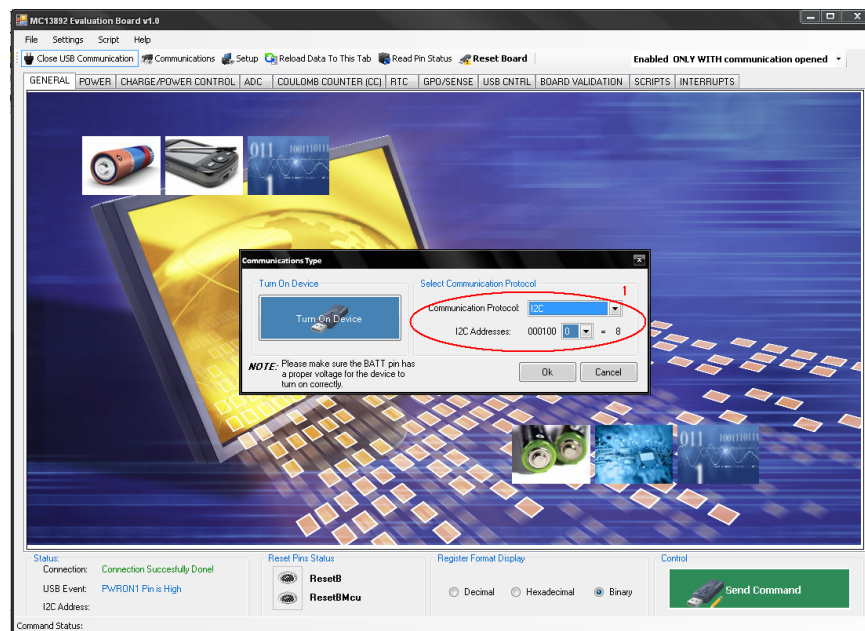
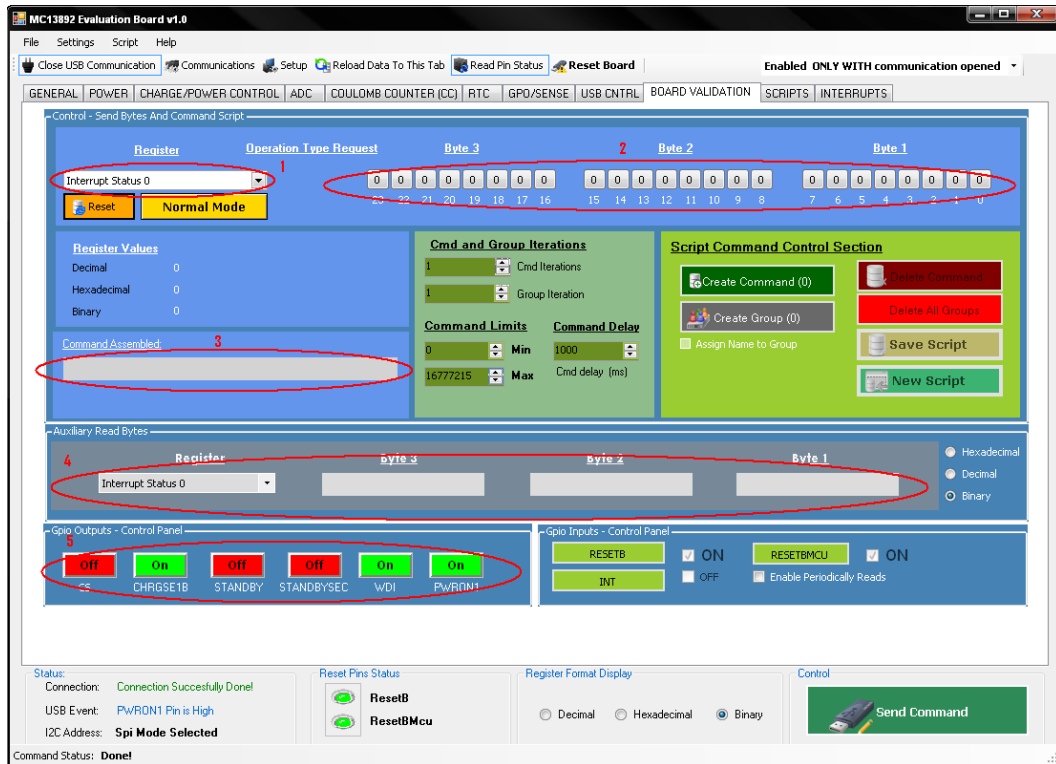

Figure 20. Communication Type Selection Window for SCI
Figure 31. Board Validation Configuration Screen
After selecting the communication type, go to the “Board Validation” tab (reference Figure 31 {5}) and set the WDI pin high, toggle the PWRON1 button to ON, and the MC13892 will turn on. If the I²C mode is selected (Figure 20), the user must select the I²C address to operate the MC13892 device, depending on the status of the A0 (MOSI) pin. At this point the user can start configuring the rest of the tabs to test all the MC13892 features.
A complete list of commands can be saved in a file to be run in series as a script. This is done with the “Board Validation” and “Scripts” tabs. To accomplish this, first click on the “Normal Mode” button (1) in Figure 31. After clicking it, it will show that the tab is working in “Script Mode”, in which the “Send Command” button is disabled and the commands assembled are only intended to be saved into a file. A Read/Write button will appear (2). This button is to indicate if the assembled command is to read or write to a specific register.